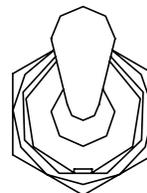

Figure 15: Trigger Toggle Switch in “On” Position
8. Turn the trigger switch to the “On” or “UP” position (see Figure 15).